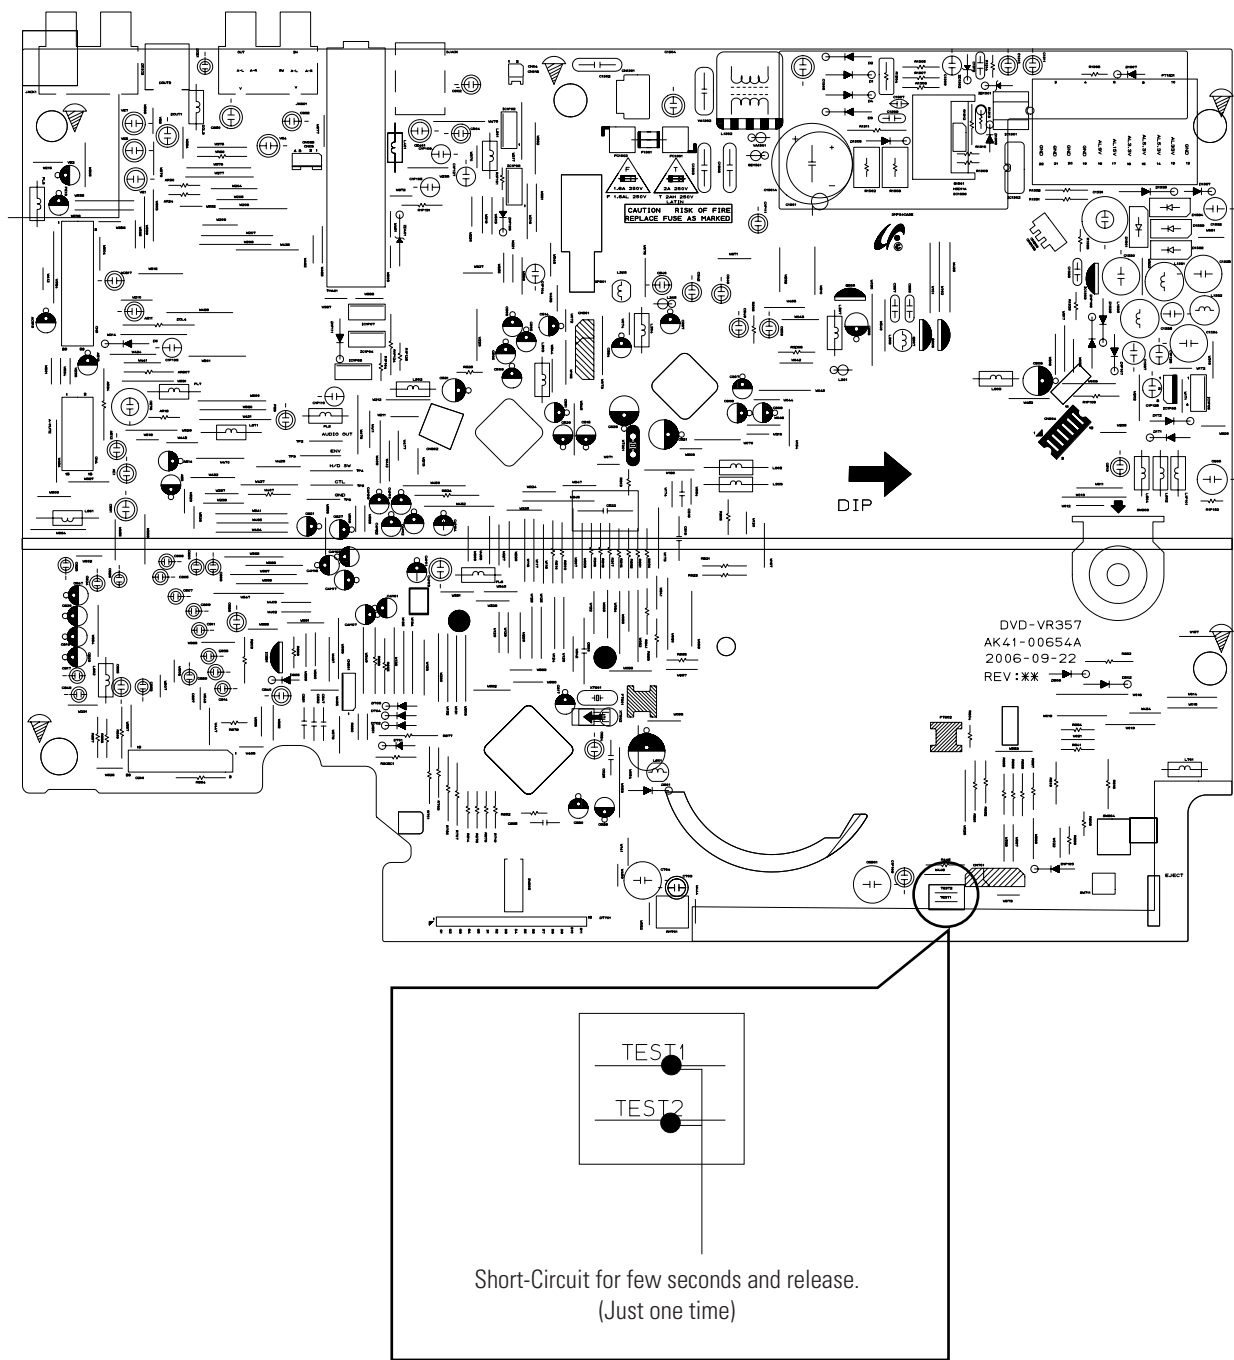

Fig. 3-2 VCR-Jack PCB (Top View)
- 2) Intermittently short-circuit the two Test Points on VCR-Jack PCB while setting the adjustment mode. (See Fig. 3-2)
- 1) Intermittently short-circuit the two Test Points on VCR-Jack PCB. (See Fig. 3-2)
- 2) Intermittently short-circuit the two Test Points on VCR-Jack PCB. (See Fig. 3-2)